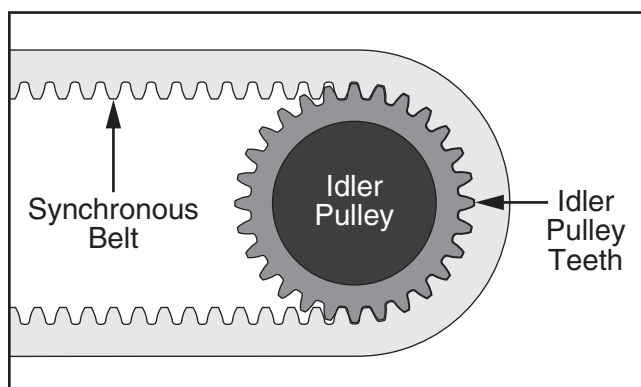

Figure 92. Synchronous belt meshing with idler pulley teeth.
15. Verify belt meshes with all idler pulley teeth (see **Figure 92**).